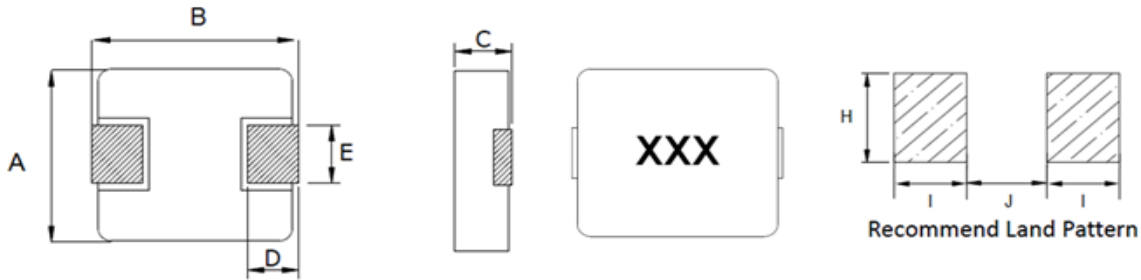

Fig. 4-1
1) Dimensions and recommended PCB pattern for reflow soldering: See Fig.4-1 and Table 4-1.